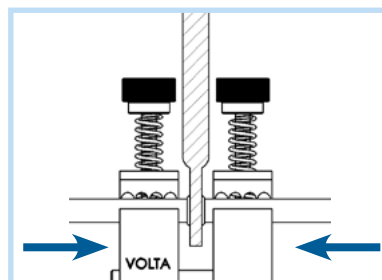

Fig. 17
6. Allow the pliers to close so that the belt ends are in firm contact with the welder, until belt edges melt into a 0.5 ÷ 1.0 mm crown (Fig 17).